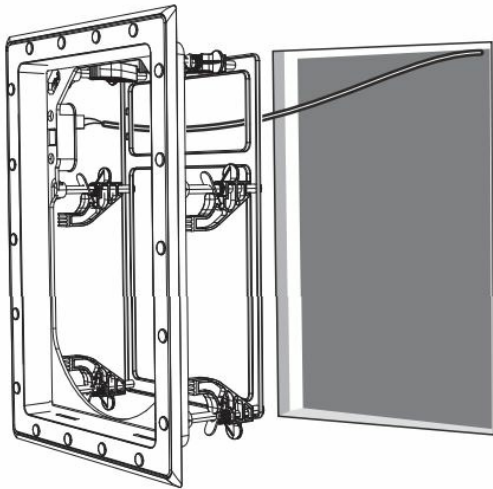

Fig. 8. Installing the Frame into the Wall
1. Carefully press the frame into the wall aperture, making sure not to trap or pinch the speaker wiring (Fig. 8).